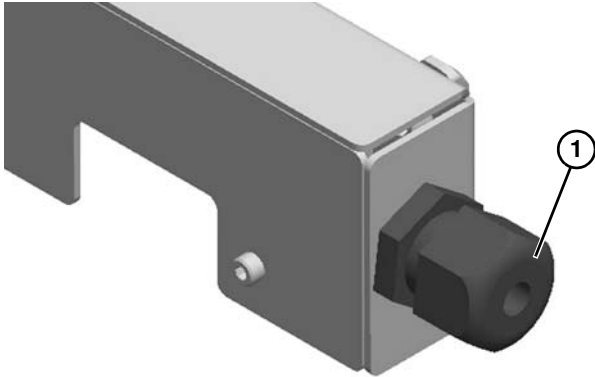

Figure 31
- For remote controls, a cord grip (**Figure 31, item 1**) is provided to accommodate 4.3 - 11.4 mm (0.17 - 0.45") diameter cords.